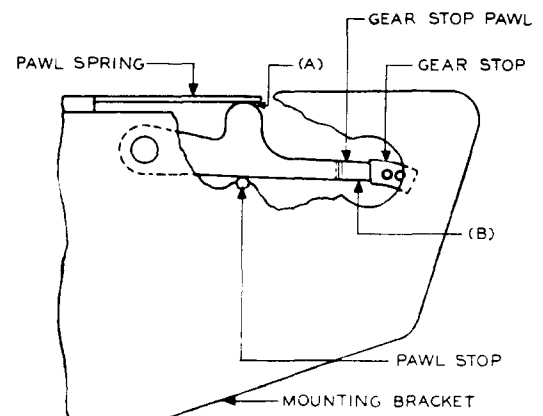

Fig. 9 - Gear Stop Pawl Position
(c) Fig. 9(A) - With the timer gear moved slightly from its normal position and with the pawl resting against the pawl stop, the pawl spring shall touch the pawl.
* (d) Readjust Only: Fig. 9(B) - The tension of the pawl spring shall be